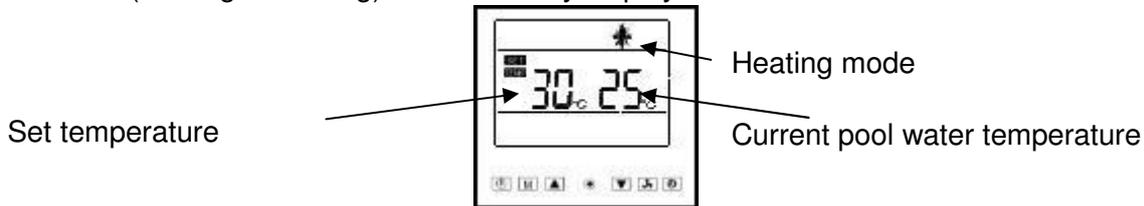
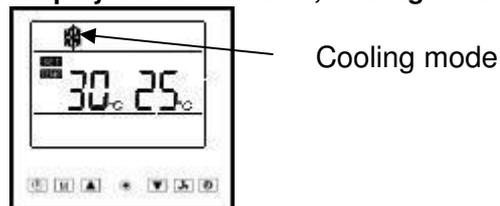

Figure 13: Heat pump display when turned on, heating mode.
Figure 14: Heat pump display when turned on, cooling mode.
To start the heat pump, press . The heat pump starts within 3 minutes. The last selected operating mode (heating or cooling²⁰), see Figure 13, Figure 14 and Paragraph 5.2.13.8, the last temperature set and the current pool water temperature (heating or cooling) is immediately displayed.
- Heating,  is displayed, see Figure 13.
- Cooling,  is displayed, see Figure 14.
The temperature read by each sensor can be displayed by pressing  (for model BP-xxWS-B (xx=35, 50), press ) and hold down for 3 seconds with the pump is running, see Paragraph 5.2.4. To display temperatures read by the various sensors, press  (for model BP-xxWS-B (xx=35, 50), press ). The temperature read by the sensor is displayed for 10 seconds, if no other key is pressed, or press  to return usual information to the display, see Figure 13 and Figure 14.